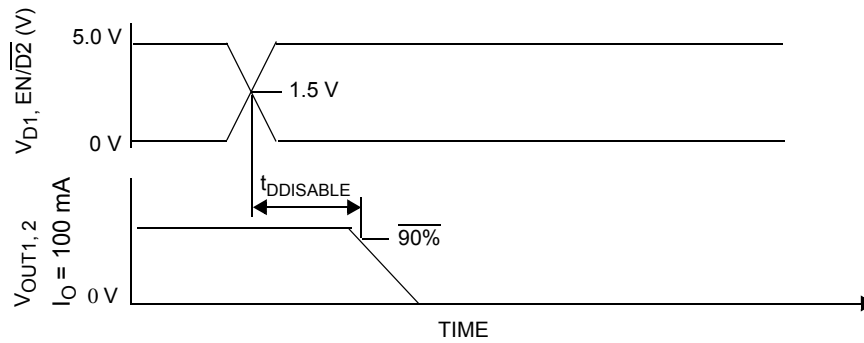

Figure 5. Disable delay time
26. \* Disable Delay Time measurement is defined in Figure 5, page 10.